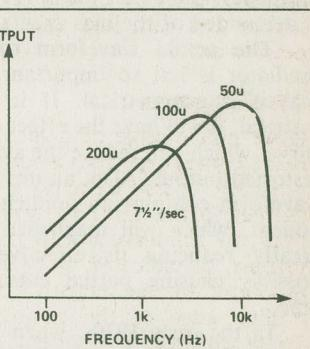

Fig. 8. (right) Output level versus frequency response for different head gaps.
**3. Effect of tape speed:** The differing equalization characteristics, quoted above, tacitly recognize that the performance of the recorder, other things being equal, will be very strongly influenced by the speed at which the tape passes under the replay head. Not only will the output signal fall as the speed is reduced, but the HF performance will also be impaired, as I have shown in Fig. 8.